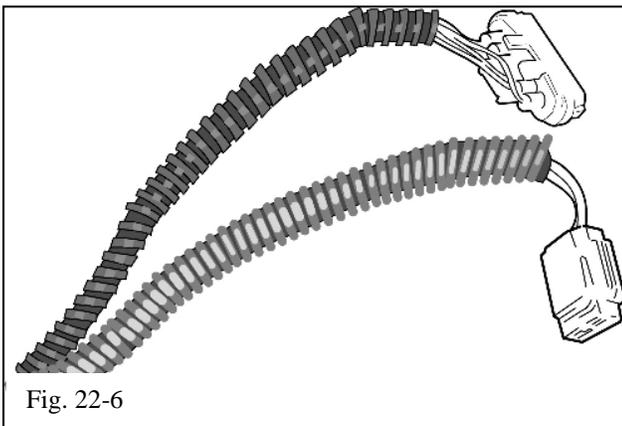

Fig. 22-6
- (i) Install a 9" length of the supplied 3/8" convoluted tube (Item B7) over the exposed throttle motor wires and secure it with electrical tape (Fig. 22-6).
- (j) Reinstall the original wire loom wrap over the air injection wires and secure it with electrical tape (Fig. 22-6).